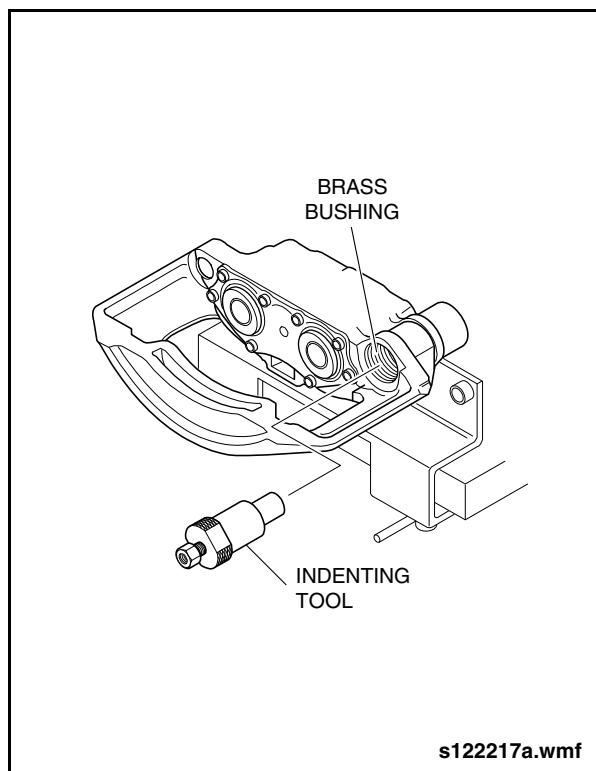

Fig. 2-129: Indenting Tool Installation
- c. Insert the indenting tool (Item 74 from special tools list) into brass bushing from the outside until the stop is contacted. See "Fig. 2-129: Indenting Tool Installation" on page 114.